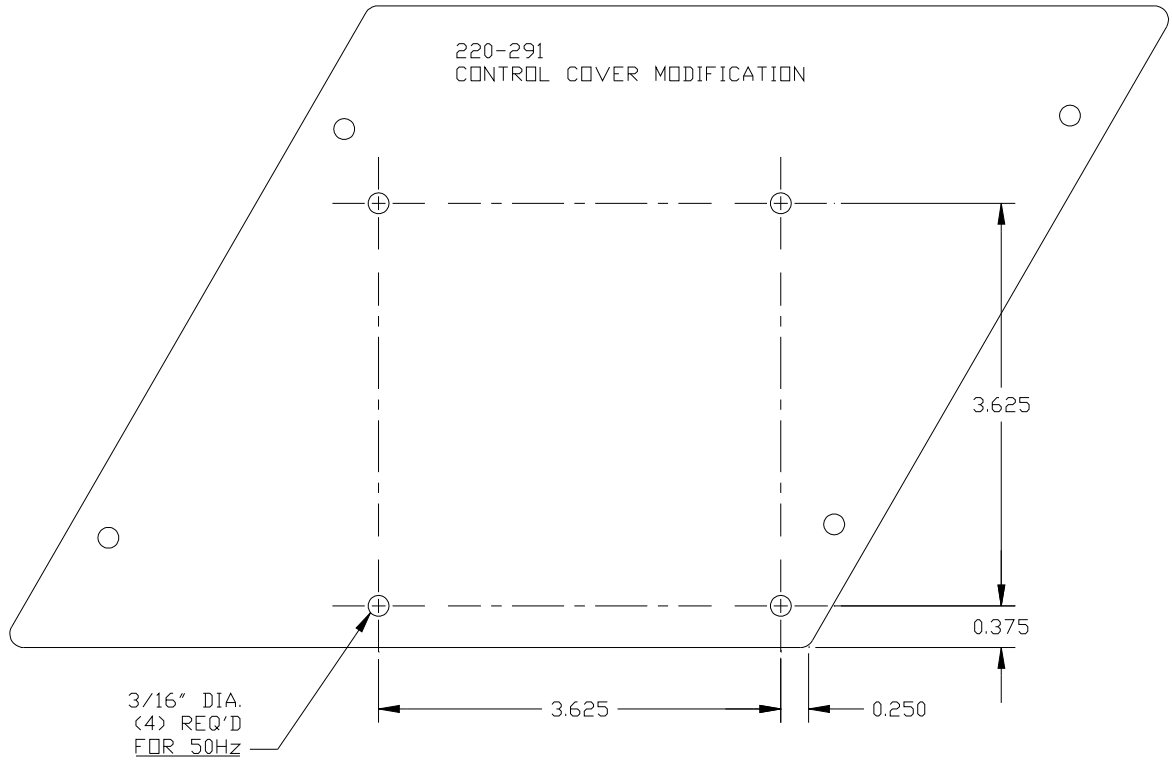

Fig. D2 Electrical Cover Modification 50Hz, (Model B Perforators)
*For Model **B perforators 50Hz** only;* use the supplied template (page 13, Fig. D2) and drill the switch enclosure mounting holes in the DC control cover. Attach switch box to DC control cover with four screws and re-attach the cover.